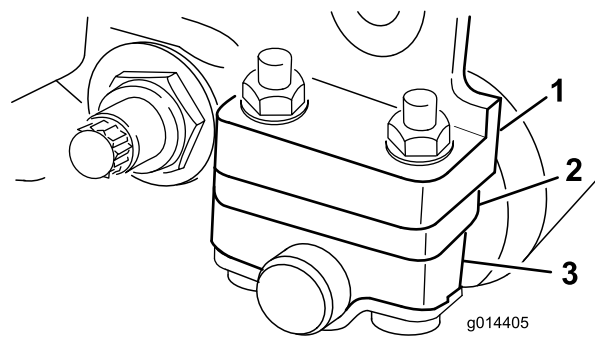
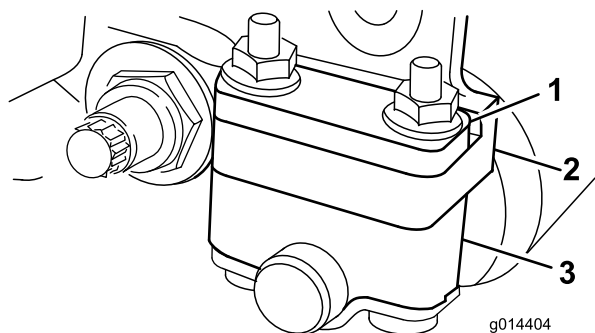

Figure 7
Figure 6
Depending on your desired height-of-cut range, you need to adjust the rear-roller brackets (Figure 6 or Figure 7) to the low or high position:
- Position the spacer above the sideplate-mounting flange (factory setting) when the height-of-cut settings range from 1.5 mm to 6 mm (1/16 inch to 1/4 inch) as shown in Figure 6.
- Position the spacer below the sideplate-mounting flange when the height-of-cut settings range from 3 mm to 25 mm (1/8 inch to 1 inch) as shown in Figure 7.
- Place the spacers onto the bolts above or below the roller brackets, as required (Figure 6 or Figure 7).